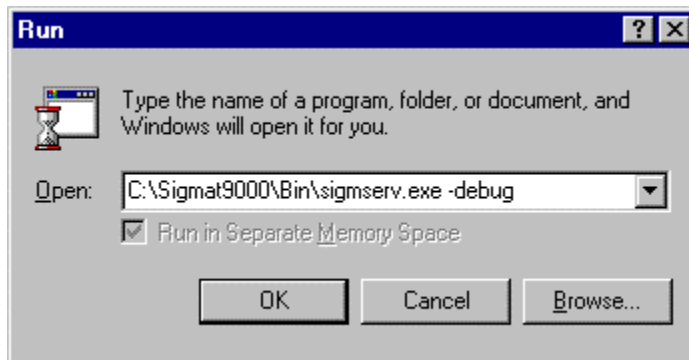

figure 2
2. To manually execute the **Server** application, select the '**Start**' Menu on your system. Use the "**Run**" command from the Start menu as shown in **figure 2**.